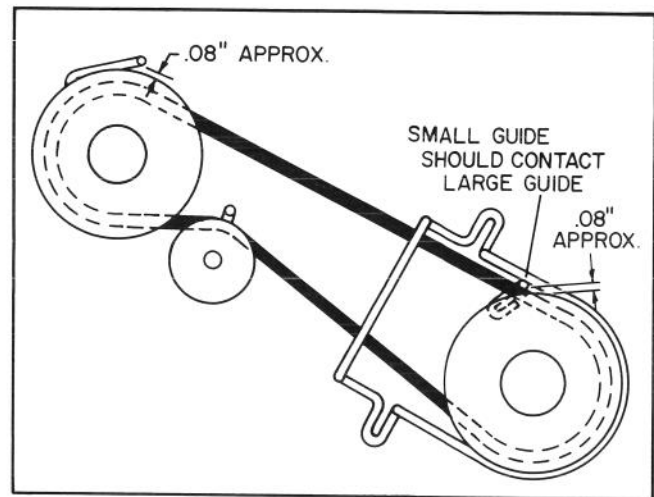

Figure 32
6. Replace or reposition all belt guides (Fig. 32) and adjust belt tension by following the procedure described above. Adjust wing pulley brake following the procedure described in this section. Replace covers.